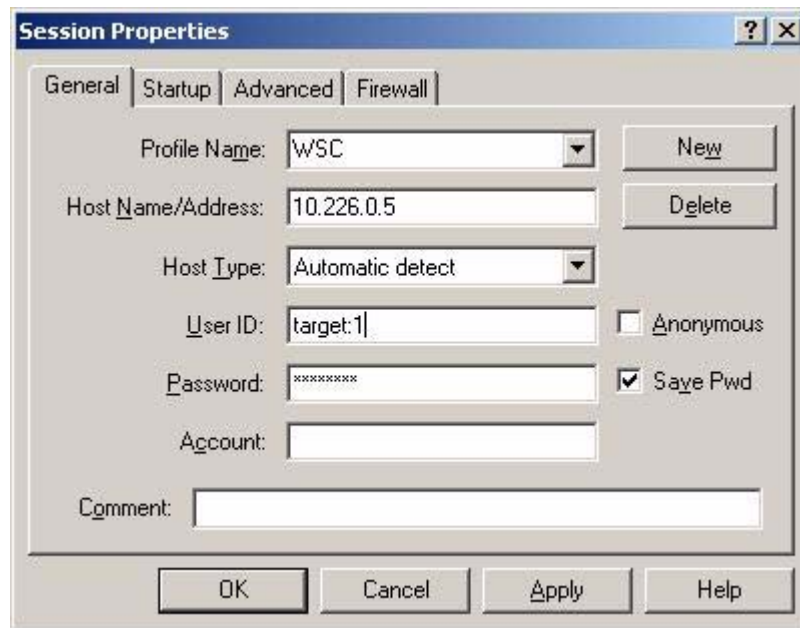

Figure 5-9 General session page - WSC upgrade
1. Log on to the PM 5000 WSC card using a ftp server. For example, WS_FTP is used here. Enter the Profile Name, Host Name/Address and user name/password. The user name is “target: <wsc card number>”, for example, “target: 1”. Figure 5-9 shows the general session properties screen on WS_FTP. Click **OK**.
1. Log on to the PM 5000 MSC card using a ftp server. For example, WS_FTP is used here. Enter the **Profile Name, Host Name/Address** and **User ID/Password**. The user name is “target”. Figure 5-9 shows the general session properties screen on WS_FTP. Click **OK**.